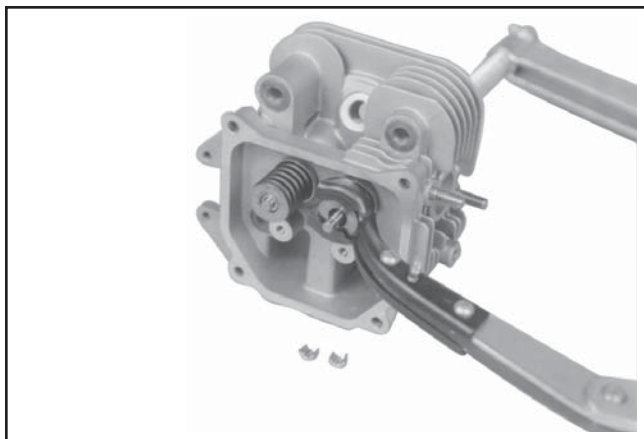

**Figure 8-54. Removing Rocker Arm.**
1. Remove the two hex flange screws, rocker arm pivots and rocker arms from the cylinder head. See Figure 8-54.